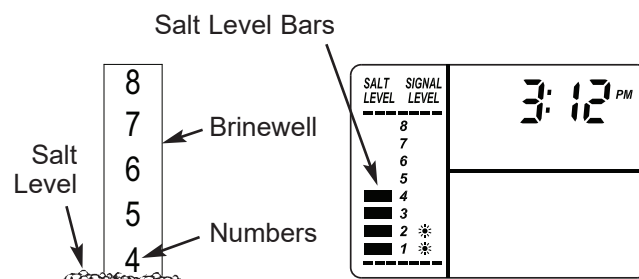

FIG. 21
2. The salt level scale, on the brinewell inside the tank, has numbers from 0 to 8 (see Fig. 21). Observe the highest number the leveled salt is at, or closest to.
3. Press the SET SALT LEVEL button as many times as necessary to make the salt level bars in the display (see Fig. 21) match the number on the brinewell. At level 2 or below, the Low Salt light will flash (See Page 13).